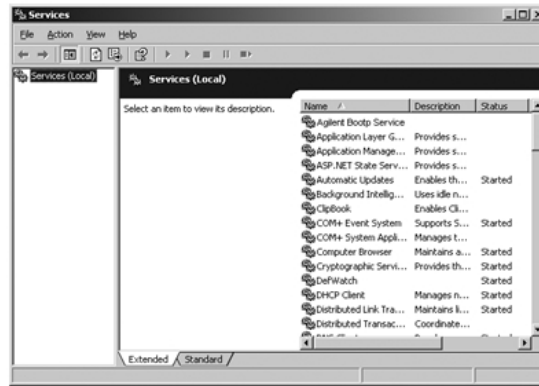

Figure 35 Windows Services screen
- 1 In the Windows control panel, select **Administrative Tools > Services**. The **Services** screen appears, see Figure 35 on page 209.